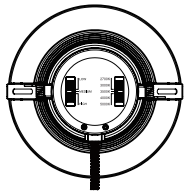

Fig. 1
- Step 1:** Choose desired CCT & Wattage by simply switching the dip switch (Fig. 1).